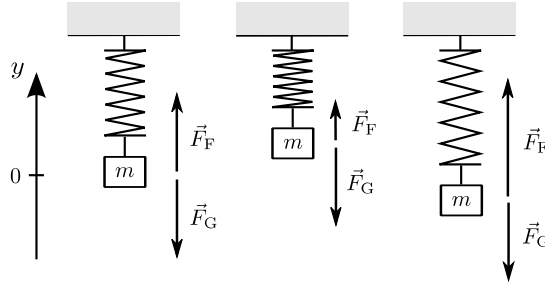

Figure 2: Forces acting on the mass during an oscillation.
If a mass  $m$  is attached to a spring with spring constant  $k$ , the spring is elongated by the weight force  $F_G = mg$ . The elongation is calculated with (1) as  $\Delta l = mg/k$  and the corresponding position of the mass is the equilibrium position of the spring-mass system. This position is chosen as the zero position of the  $y$ -axis (see figure 2).
In the equilibrium position  $y = 0$  the weight force pointing downwards and of the spring force pointing upwards, just compensate, i.e. there is no resulting force in this position:  $F_s + F_G = 0$ . Lifting the mass on a position  $y > 0$  reduces the tension of the spring and the spring force is reduced by  $ky$ . As a consequence the weight force is no longer compensated completely, so that there is a resulting force  $F_s + F_G = -ky$  pointing downwards. Pulling the mass downwards on a negative position  $y < 0$  leads on the other hand side to an increase of the spring force by  $-ky$  (negative sign, because  $y < 0$ , but force pointing upwards). Again weight force and spring force are not completely compensated and one has a resulting force  $F_s + F_G = -ky$  pointing upwards (see figure 2). So in all three cases  $y = 0$ ,  $y > 0$  and  $y < 0$  the mass in position  $y$  is affected by a force